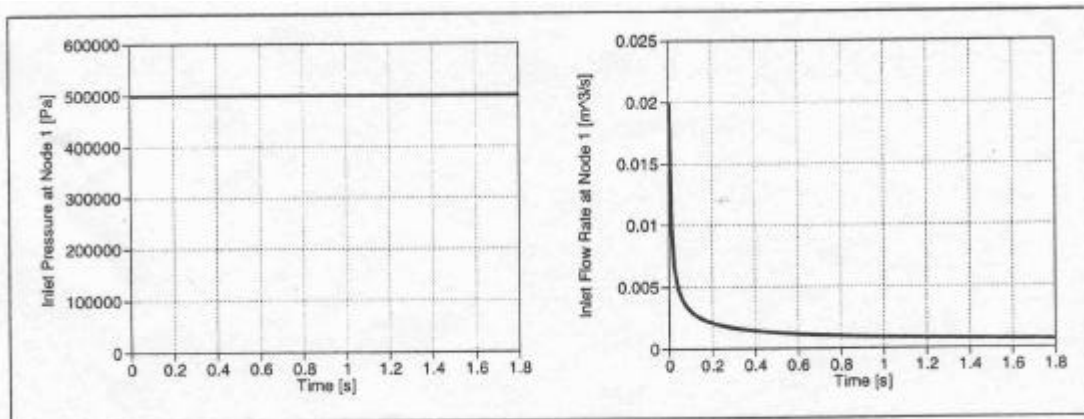

**Figure 2...:** Results from 1D filling (flow front, pressure, fill factor)
- **write "verif\_1d"** writes the output file to disk. If there is no such file, it will appear in the current directory *C:\lhome\examples\1D*, otherwise the existing file is overwritten. The output can be load to TECPLOT, giving Figure 2.: